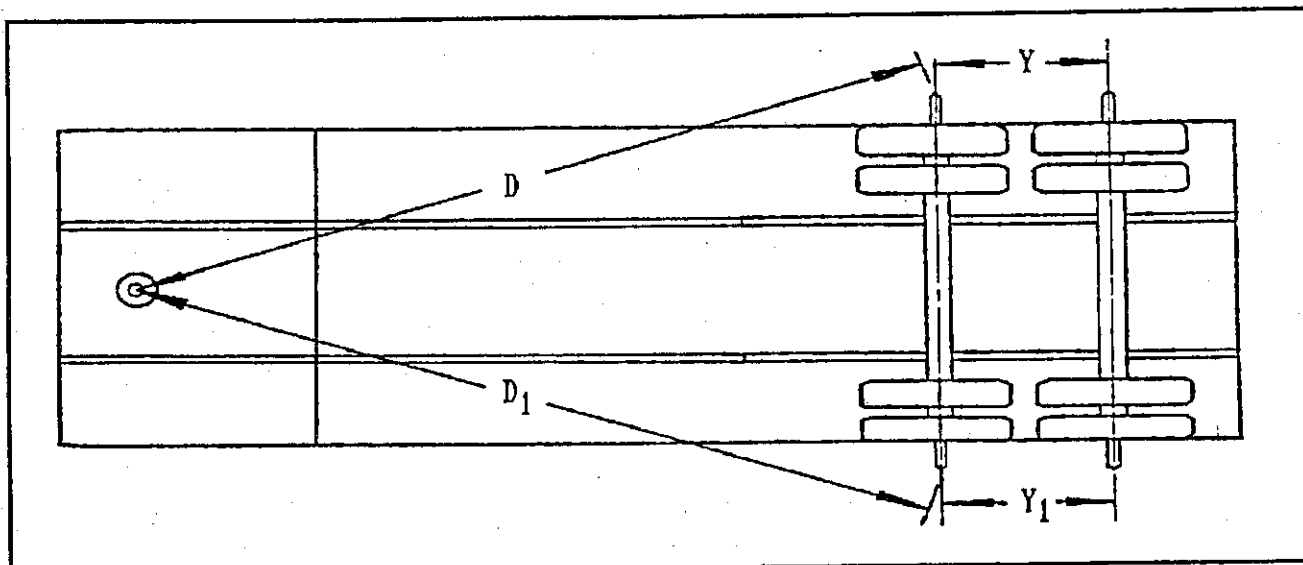

FIG. 5-11 CHECKING AXLE ALIGNMENT
d. Measure (D) from the plumb bob to the center point on one end of the front axle. Record this measurement. (See Fig. 5-11)
e. Measure (D₁) to the other end of the same axle in the same manner as in step d. Record this measurement. (See Fig. 5-11)
f. The two measurements must be within 1/16 inch of each other for proper axle alignment. (See Fig. 5-11) The procedure for aligning the axles is as follows: